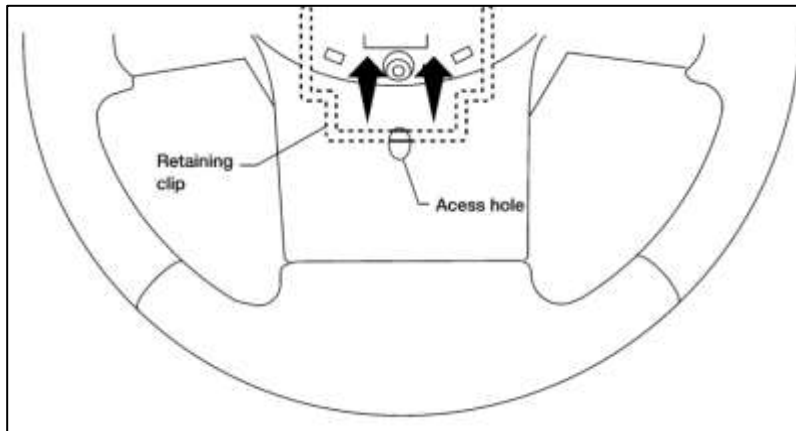

Figure 2
- b. Insert a small Screwdriver or similar tool and press upwards on the retaining clip until the Airbag is released from the Steering Wheel. *Figure 2.*